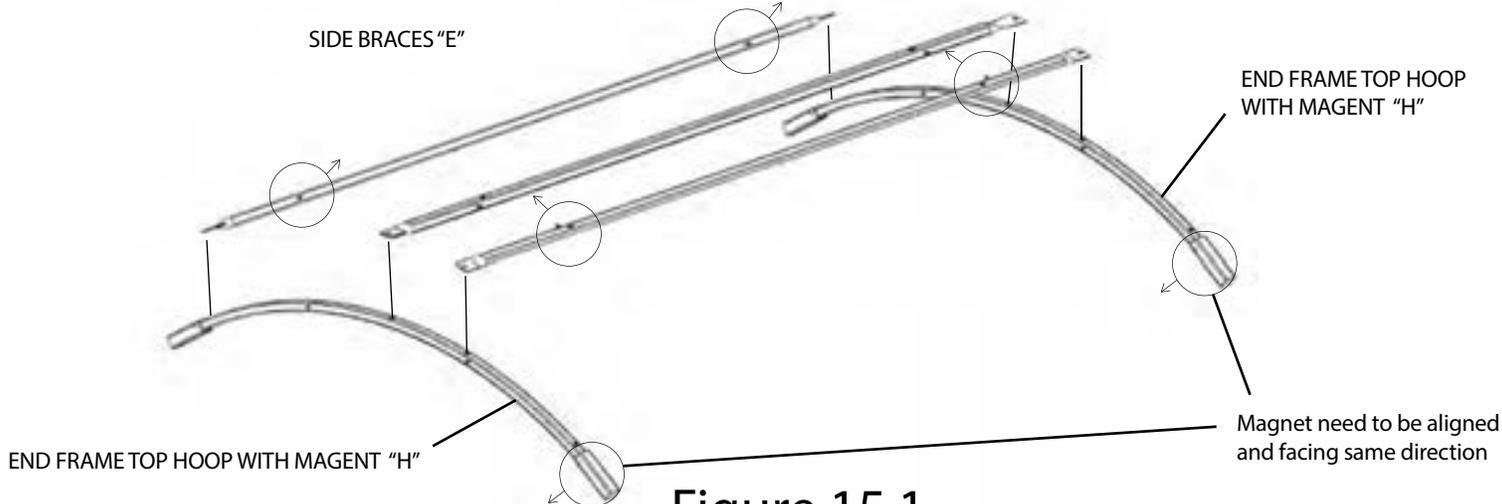

Figure 15.1
STEP 7: Locate the (5) parts that will be assembled to create the third section of the bale blind frame. These parts are the (2) END FRAME TOP HOOPS WITH MAGNET "H" and (3) SIDE BRACES "E". Using the hardware connection in (6) places, align and fasten the hole ends of the (3) SIDE BRACES "E" with the corresponding holes in the (2) END FRAME TOP HOOPS WITH MAGNET "H", and fasten with (6) Bolts and (6) Nuts, as illustrated in Figure 15.1.
NOTE: On the (2) END FRAME TOP HOOPS WITH MAGNET "H", make sure the ends containing the magnets are aligned and facing the same direction, as illustrated in Figure 15.1. The (2) outer most SIDE BRACES "E" to be installed on the (2) END FRAME TOP HOOPS WITH MAGNET "H", will have their (4) Set Screws facing upwards, as illustrated in Figure 15.1. The remaining SIDE BRACE "E" to be installed in the middle corresponding hole can be installed with it's (2) Set Screws facing in either direction. Again, for the middle SIDE BRACE "E", it does not matter which way the Set Screws are facing.